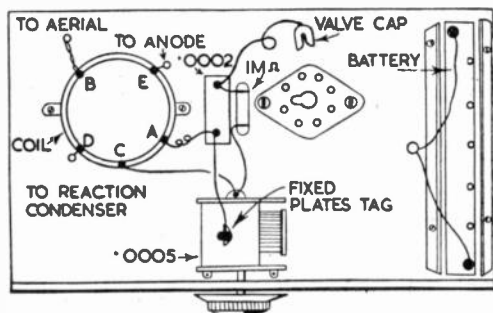

Fig. 3—Components and wiring above the chassis
The layout of the components above the chassis will be seen from Fig. 3. It will be necessary to saw or drill a hole about 1in. in diameter, for the valveholder.
The tool rest, Fig. 3, is constructed as follows. Cut a block of wood (D) to the same dimensions as the lug on the tailstock, and drill it $\frac{1}{4}$ in. through its centre. Cut (F) 2ins. wide, $\frac{1}{4}$ in. thick and 2ins. long, and drill similarly; (E) is a piece of $\frac{1}{4}$ in. thick wood, 3ins. wide and about 7ins. long. At 1in. from its rear end cut a groove $\frac{1}{4}$ in. wide and 4ins. long. Now fix all three parts together with a bolt, so that the whole can be slid along the bed, and fixed by tightening the bolt at any point.